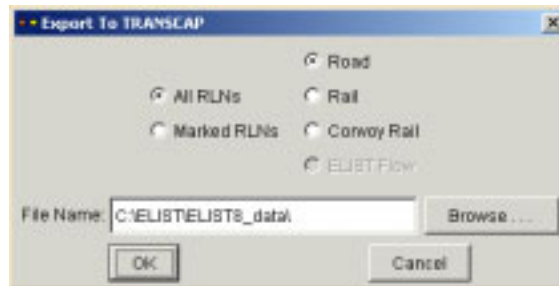

Figure 5.208 Export to TRANSCAP Window
4. On the Detail Expansion menu, click the Export to TRANSCAP command. The Export to TRANSCAP window opens (Figure 5.208).